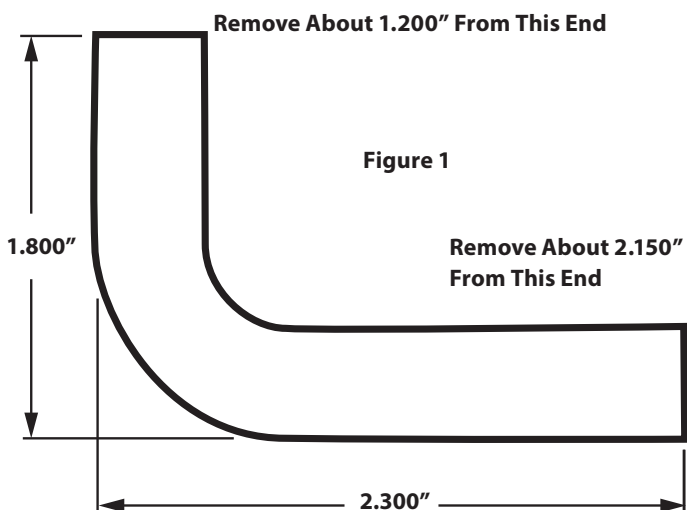

Figure 1
16. Cut both 90° vent hoses to the lengths shown in **Figure 1**, and slip the pinch clamps over the ends of the hoses. Apply a thin film of oil or grease to the inside of each end of both hoses.